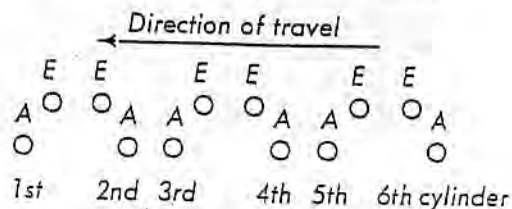

Fig. 00-3/2
3. On all gasoline and gasoline injection engines of Models 190 c to 250 SL move the cam of the camshaft which operates the tappet being adjusted to the position where the lobe of the cam is not pressed against the rocker arm but is on the opposite side and at right angles to the sliding surface of the rocker arm, i. e. the base circle of the cam faces the sliding surface of the rocker arm (Fig. 00-3/1). Screw out the spark plugs and turn the crankshaft at the shoulder screw fastening the Vee-pulley and the counter-weight to the crankshaft; use an SW 22 socket and at ratchet to turn the crankshaft in the direction in which the engine turns.